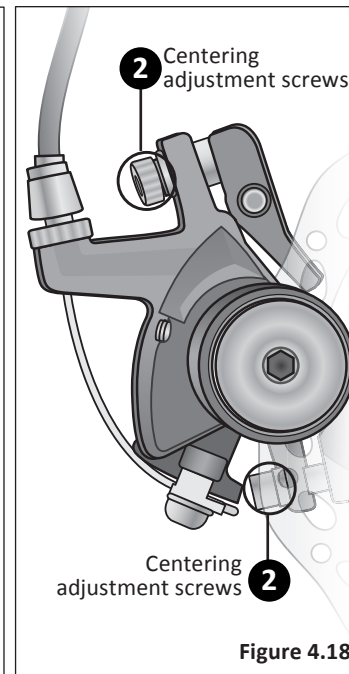

Figure 4.18
- 2 Tighten the centering adjustment screws. **Figure 4.18**